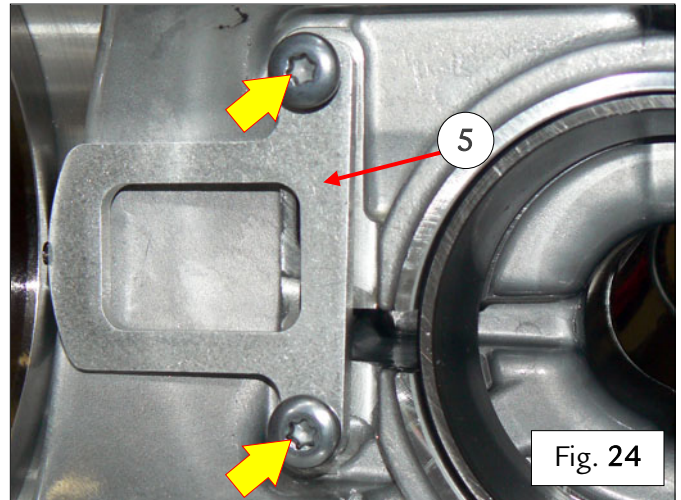

Fig. 24
- Remove the bracket (5), undoing the indicated screws – Fig. 24.